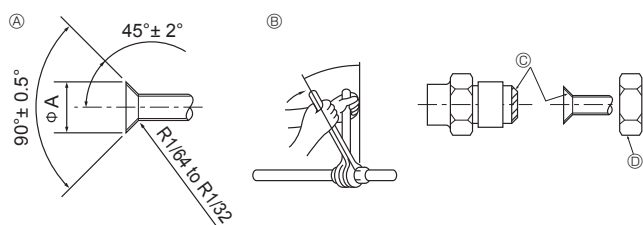

Fig. 4-1
4.2. Connecting pipes (Fig. 4-1)